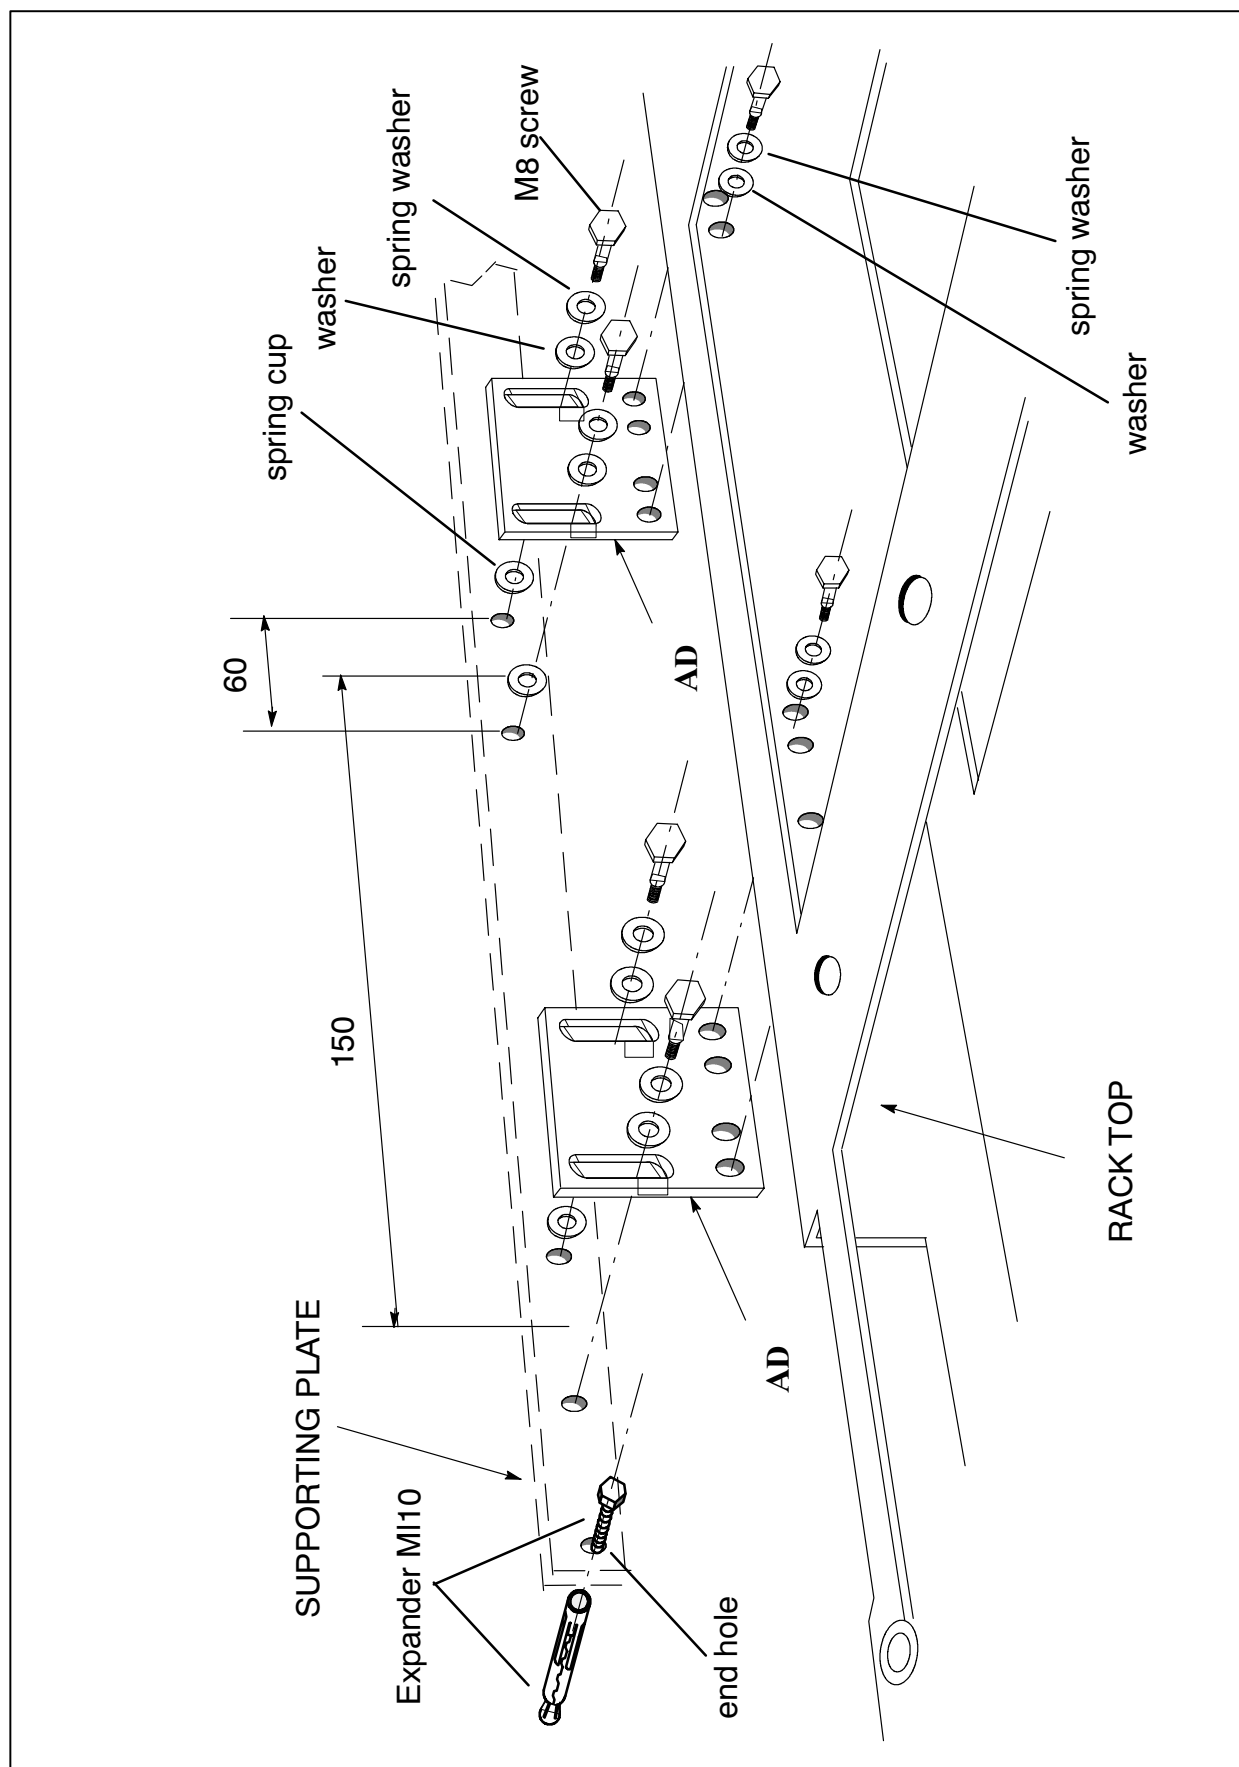
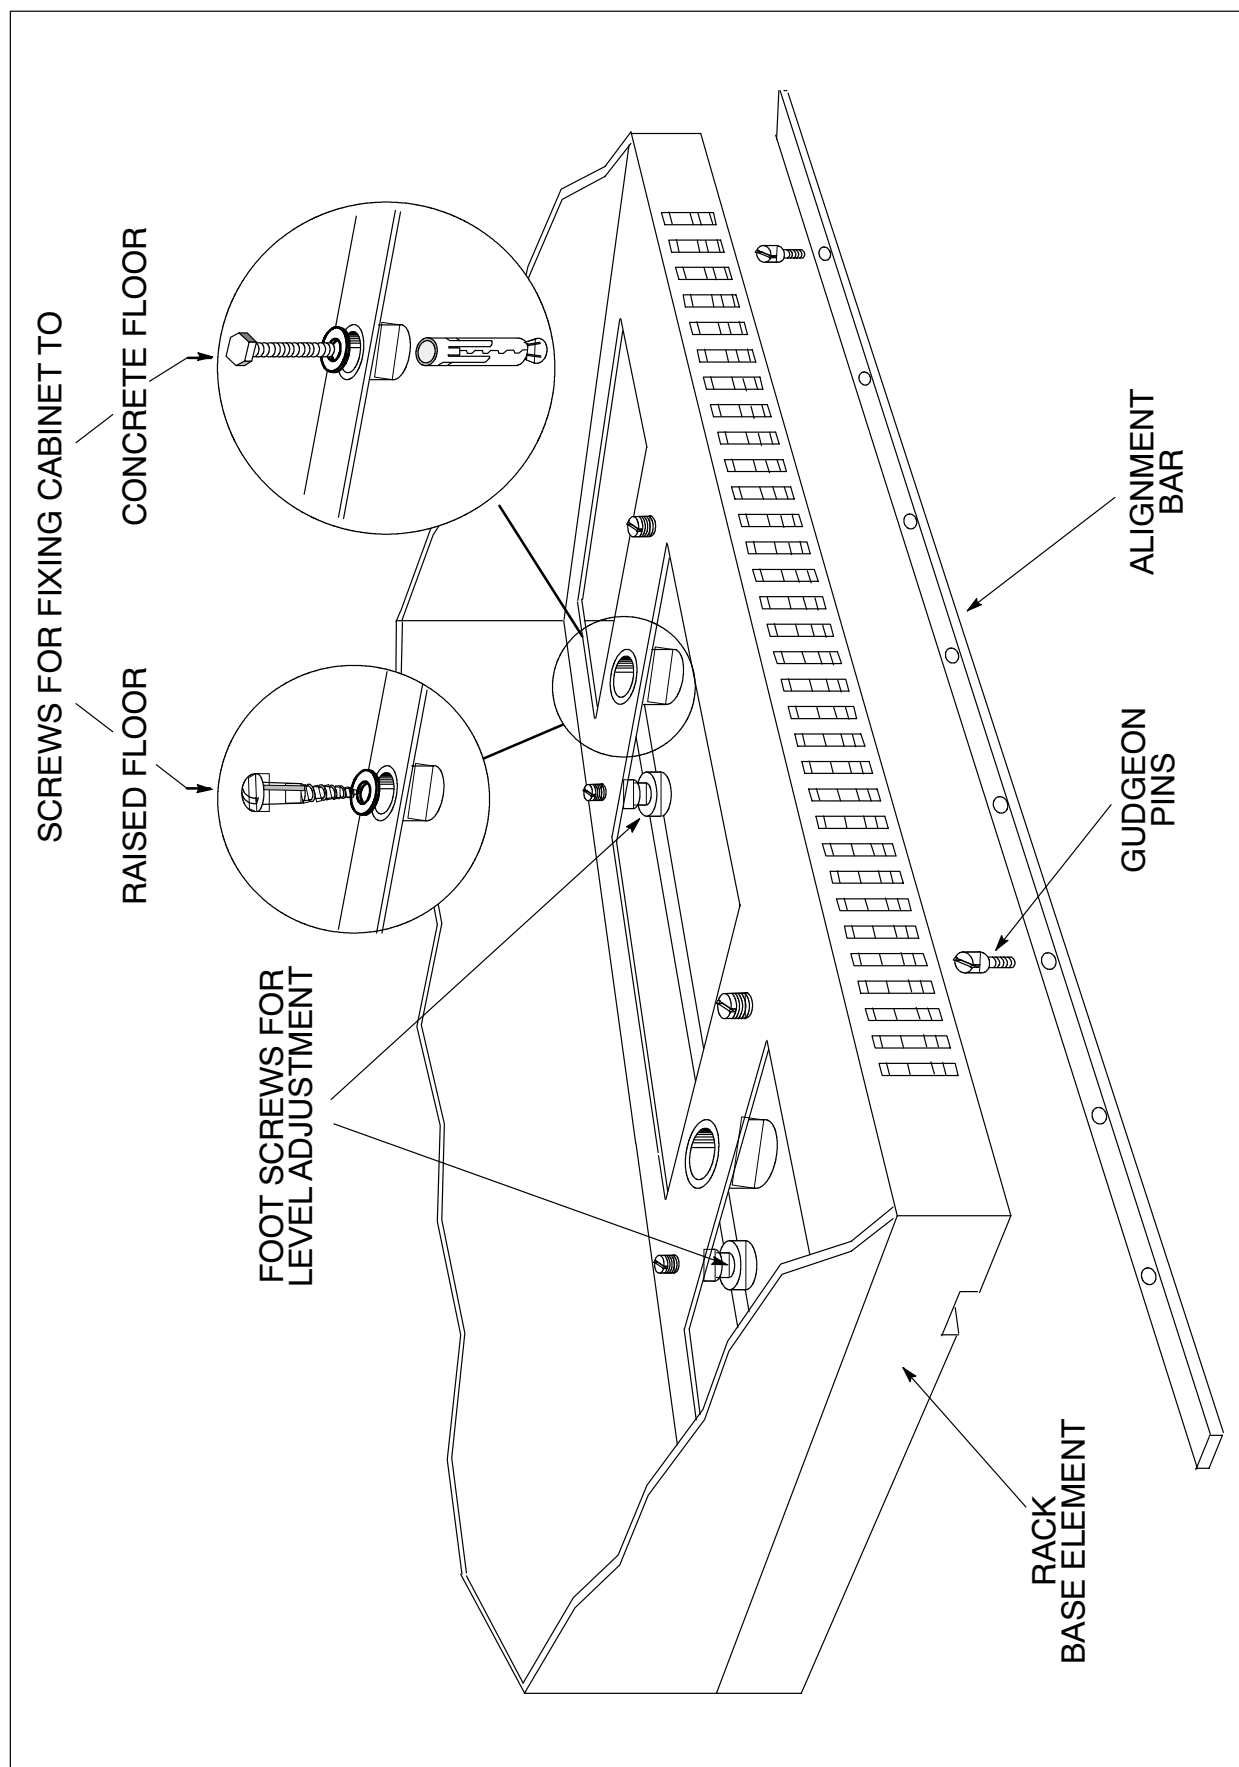

Fig. CC-7 Exploded view of wall fixing
Fig. CC-8 Rack mounting – view of rack base element
Fit the expander screws into the holes (end holes) in the supporting plate (*Fig. CC-7*).
3. Fit two 6x10mm screws with 6.4x11mm spring washers into the holes at the back of the rack top and into two holes (odd or even) of each fixing plate (*Fig. CC-7*).
7. Insert two 8x12mm screws into the slots of the fixing plate and tight them partially (*Fig. CC-7*); similarly, insert the expansion bolts into the holes of the rack base and partially screw them in the expanders (*Fig. CC-8*).
9. Using the plumb line, check that the rack is perfectly vertical and, if required, suitably adjust the foot screws in the rack base using the adjustment screws (*Fig. CC-8*).
4. Using the plumb line, check that the rack is perfectly true to vertical and, if required, suitably adjust the feet in the rack base element (Fig. CC-8).
6. Using the plumb line, check that the racks are perfectly true to vertical and, if required, suitably adjust the feet in the rack base elements. (Fig. CC-8).